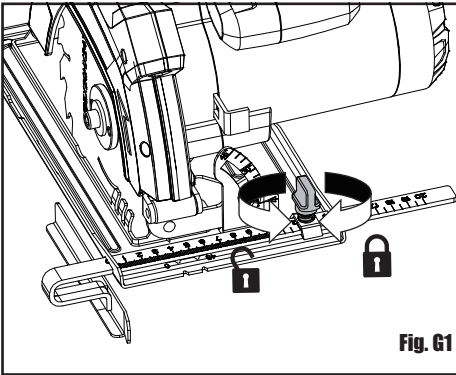

Fig. G1
3. ADJUSTING THE PARALLEL GUIDE (SEE FIG. G1, G2)